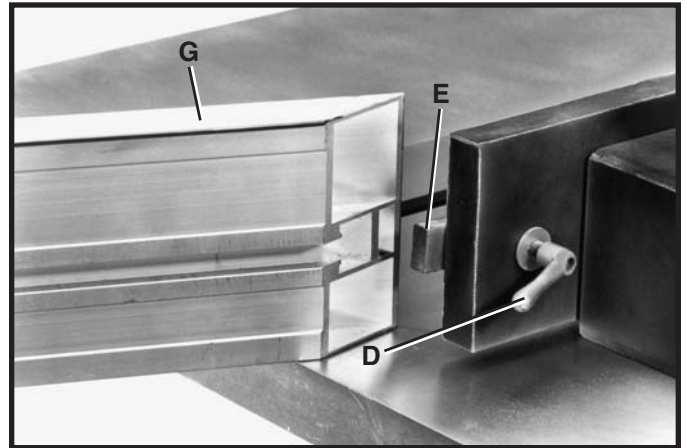

Fig. 20
6. Loosen locking lever (D) Fig. 20, and slide rear of fence half (G) onto locking bar (E). Assemble remaining fence half in the same manner. Then tighten locking lever (D) to secure each fence half to the fence body.